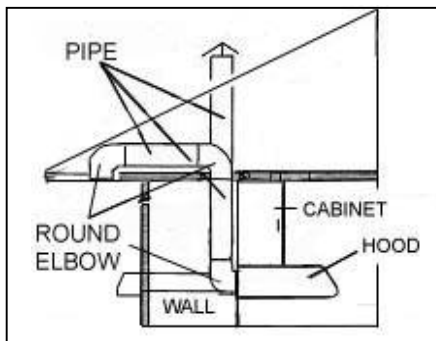

Figure 6
- Decide the location of the venting pipe from the hood to the outside. Refer to Figure 6.